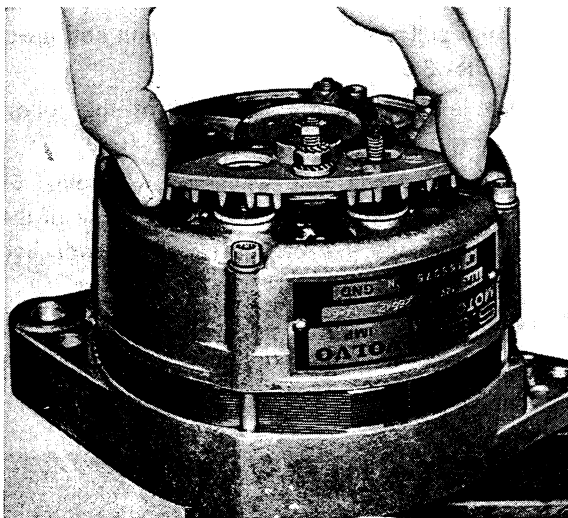

Fig. 3-7. Removing isolation diode
4. Remove the nuts and washers on terminal 61 and the corresponding on the other side of the isolation diode. Lift off the isolation diode holder. See Fig. 3-7.